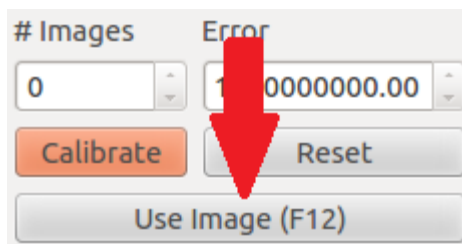

Figure 10
- Aim the camera so that the chart is aligned into a corner of the frame, in the user interface press *Use Image* or instead press the *F12* key on the keyboard (Figure 10). This will take a snapshot of the chart pattern in that position of the frame, the user will notice a green overlay of small dots left in the position of that snapshot on the screen. As the camera is moved and more snapshots are taken, the screen will become covered with the green dots,